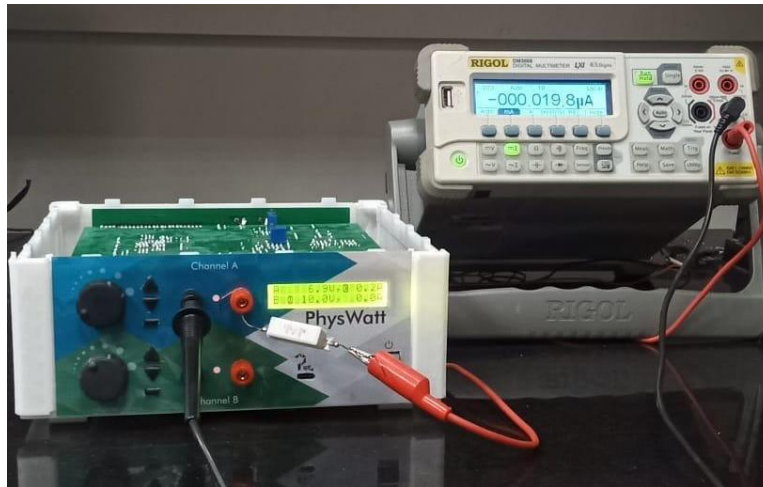

Figure 11: Complete the circuit by connecting black lead of Rigol Digital Multimeter 3068 to the black terminal of Channel A.
4. Complete the circuit by connecting the black test lead (connected to the COM port) of Rigol Multimeter) to the black terminal (which is grounded by default) of Channel A as demonstrated in Figure 11.